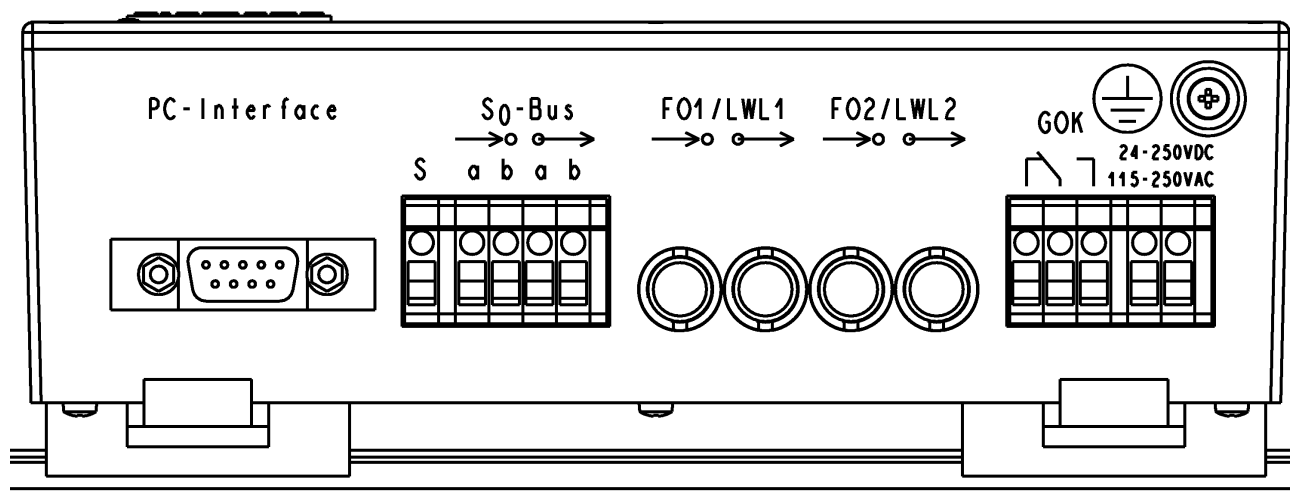

Figure 22 Interfaces and connections
The following interfaces and connections are located on the device side (Figure 22):
- ❑ **PC-Interface:** The PC-Interface (RS 232, 9-pole SUB-D connector see figure 22) is used for the parameter assignment of the CC-S₀. A special configuration program, FOS0-Configurator, which can be downloaded from http://siemens.siprotec.de/download_neu/ind_acc_e.htm. Alternative a simple Terminal Program, e.g. Hyper Terminal, can also be used. The connection cable between the PC and CC-S₀ is the standard DIGSI®-communication cable 7XV5100-4.